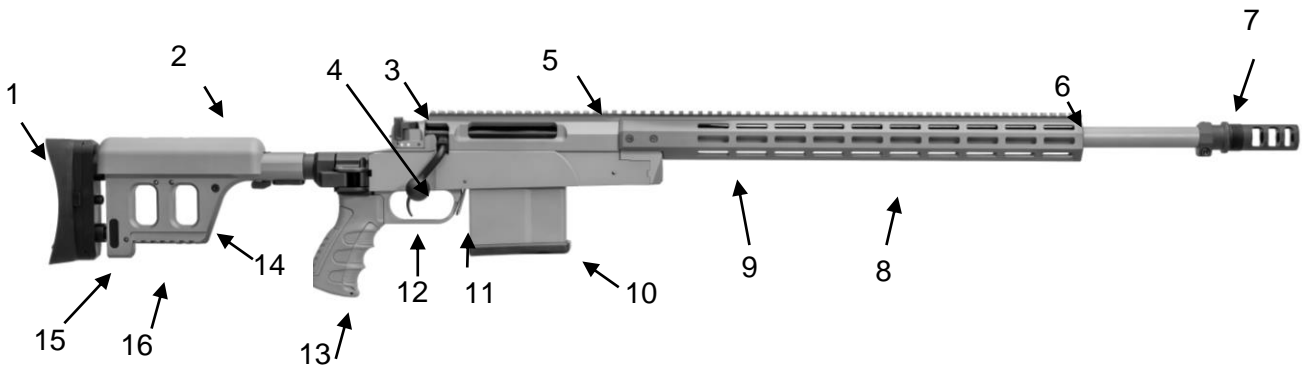

Figure 2
2.4 General view with operating and functional parts (Figure 2)